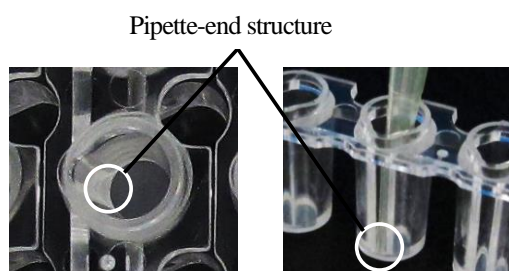

Fig. 2 Pipette-end structure
- 4) When removing the medium in the insert, Pipette tip should be aligned to the pipette end structure (Fig. 2) on the inner wall of the insert for avoiding scratch the cells